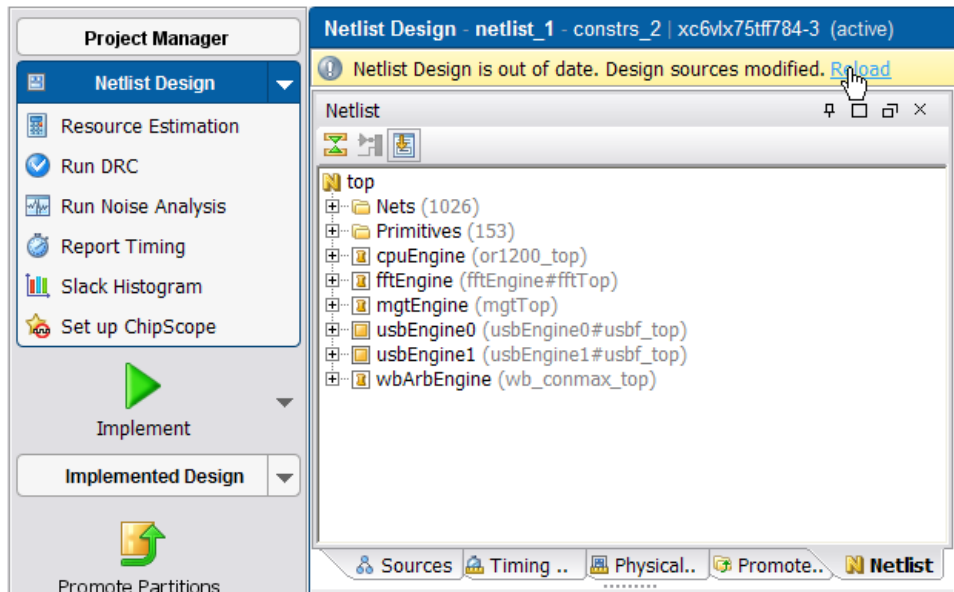

Figure 26: Updating the Design with the Reload Link
- 4-1-6. Update the design by going back the Netlist Design view and clicking the **Reload** link in the title bar (Figure 26).